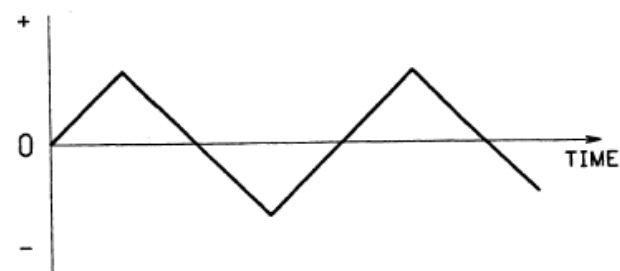

Figure 3 - Waveforms
11. **The Instantaneous Value** - The instantaneous value is the value of voltage or current at any instant in a given period. In a sine wave, the instantaneous value is constantly changing so it cannot be measured directly – it can only be calculated. One cycle of a sine wave is a graph of the instantaneous values for one revolution of a 2 pole alternator as shown in Figure 3.